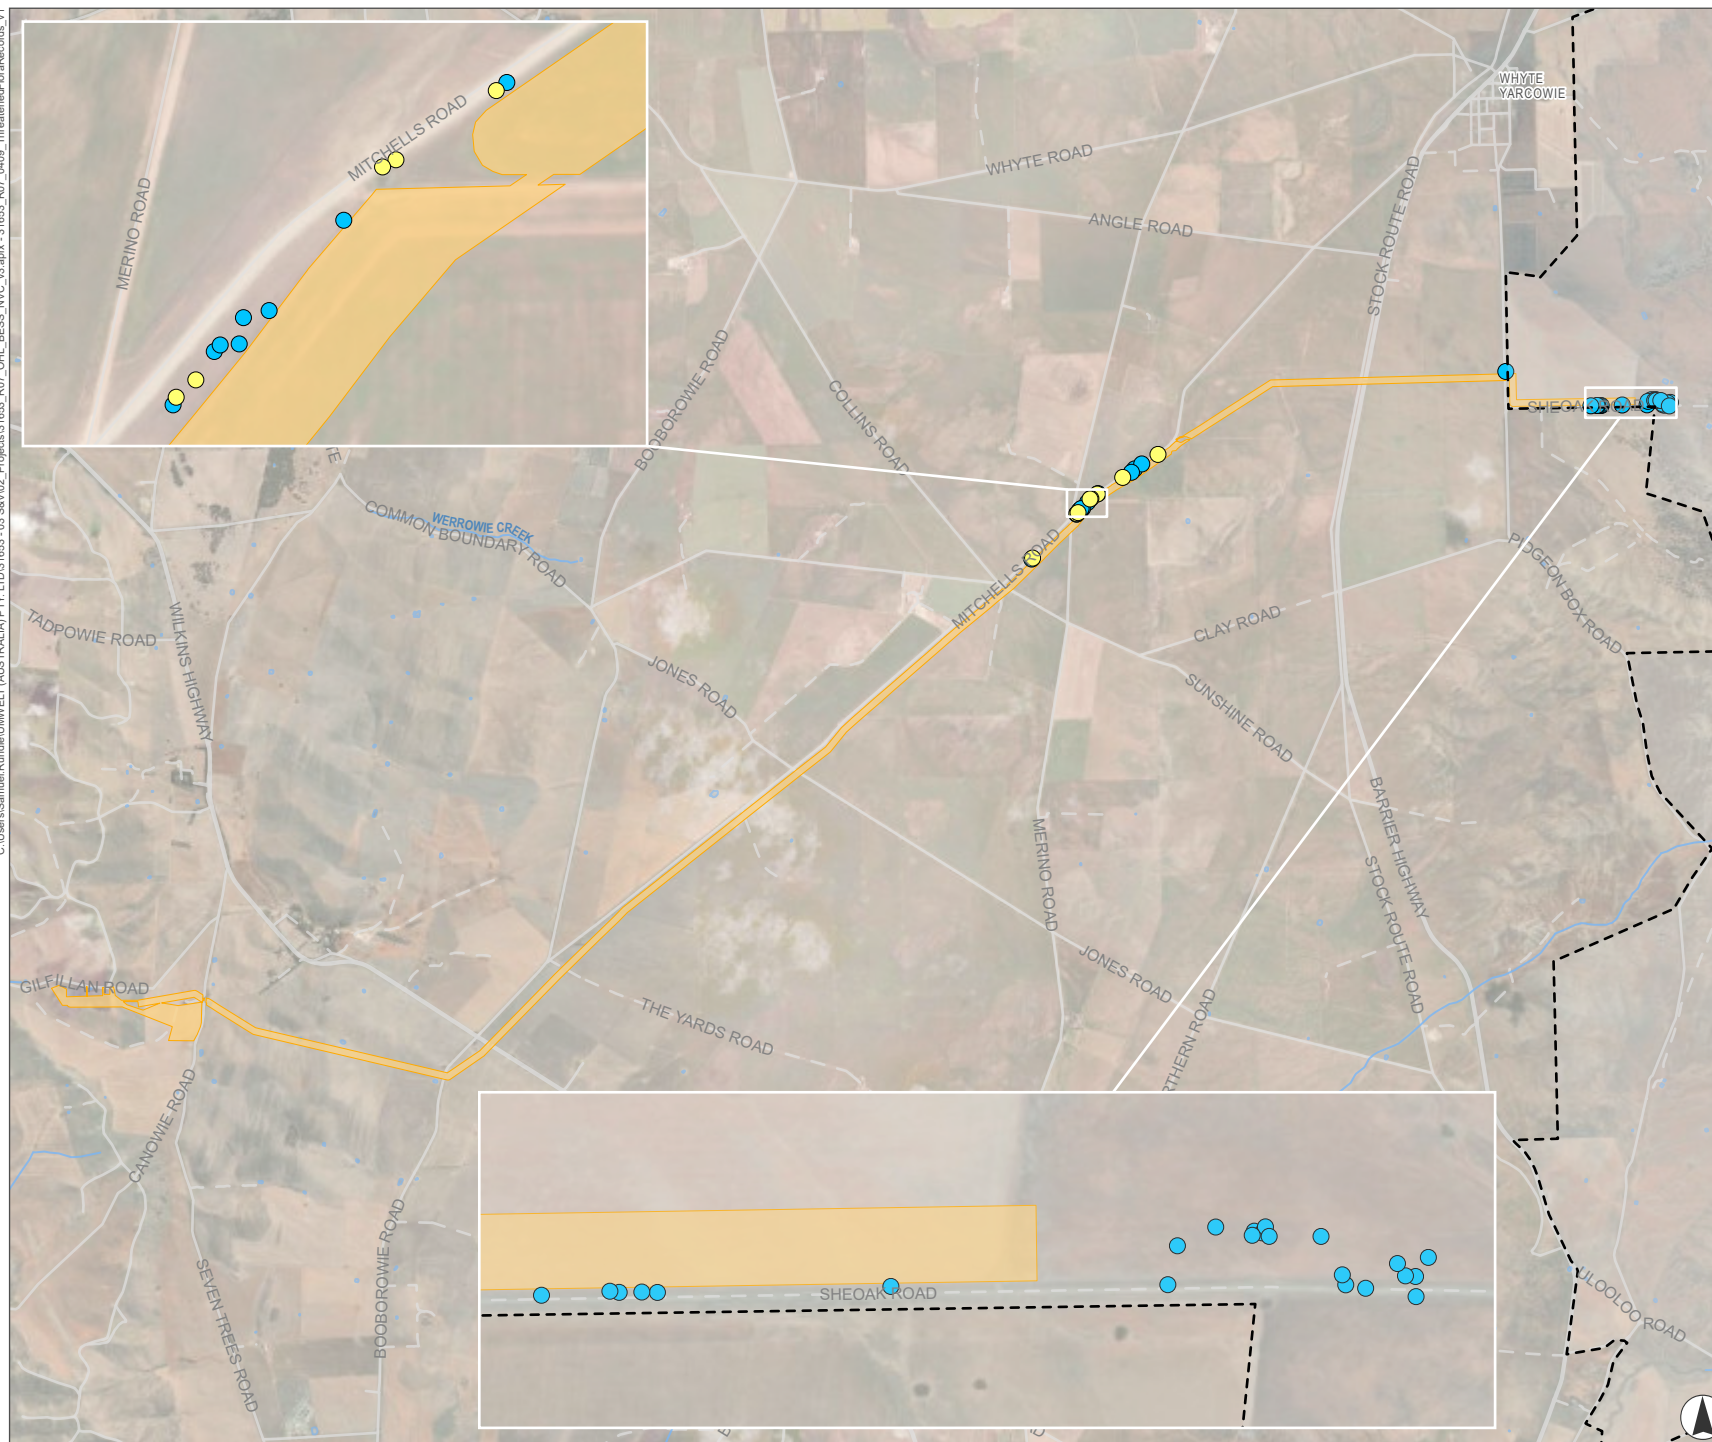

FIGURE 4.9
- *Maireana rohrlachii* (Rohrlach's Bluebush): listed as Rare under the NPW Act - 38 individuals were recorded throughout the northern half of the OHL, with the highest abundance being recorded at the northeastern end (**Figure 4.9**).
- *Rumex dumosus* (Wiry Dock): listed as Rare under the NPW Act - eight individuals were recorded along the northern part of Mitchells Road (**Figure 4.9**).